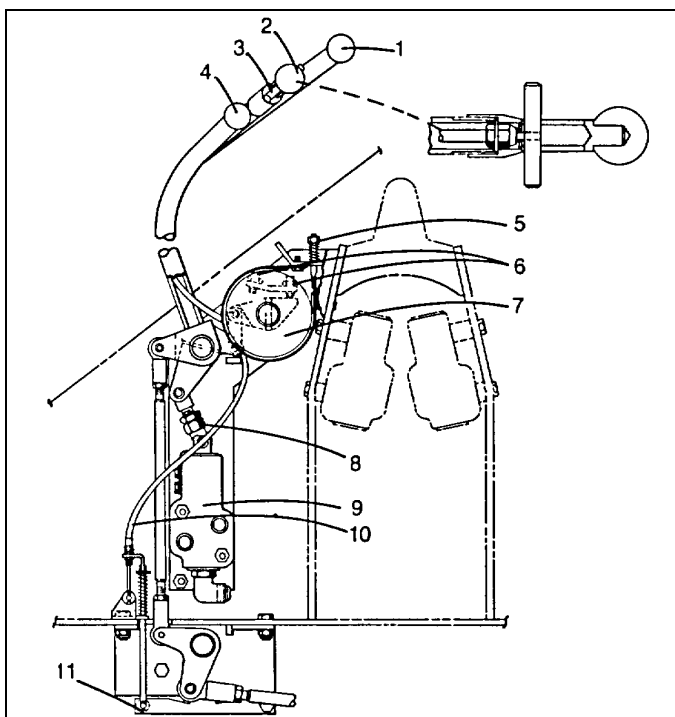

Fig. 4-3 NA210-D
4-7 Swing Brake Control Adjustment: (See Fig. 4-3). The brake band tension may be adjusted by tightening the spring loaded nut (5) on the band.